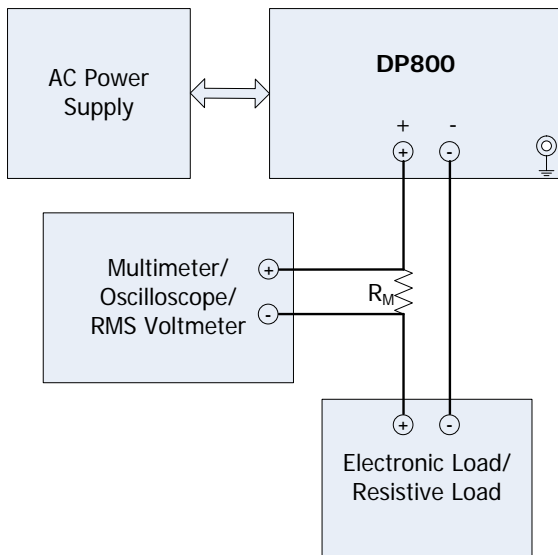
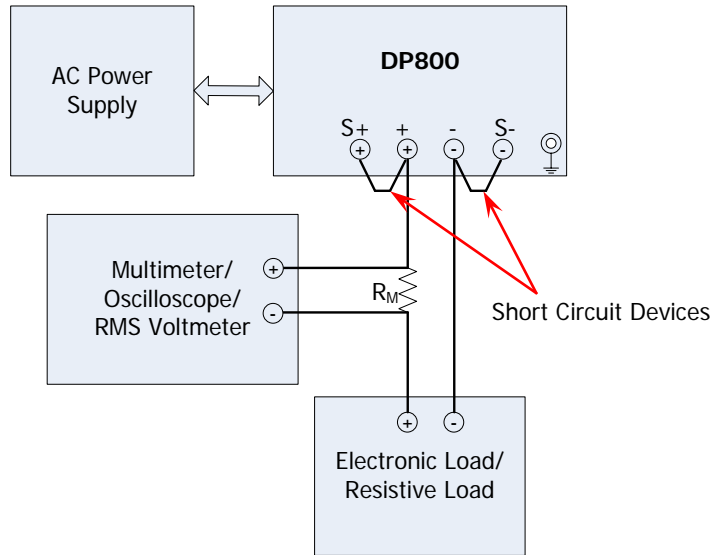

Figure 3-1 CC Test Connections
Figure 3-2 CC Test Connections (Sense)
Before performing the tests, select the appropriate voltage via the “voltage selector” at the rear panel of the power supply according to the AC line voltage of the country (230V is taken as an example in all the tests in this manual). Under normal temperature (about 25°C), make connections according to Figure 3-1 or Figure 3-2 using the devices recommended in “**Recommended Test Devices**” (for CC ripple and noise test, please connect the desired devices according to Figure 2-1 or Figure 2-2). During the test process, please set the voltage of the AC power supply according to the voltage selected of the “voltage selector” at the rear panel of the power supply.
- During the CC tests, make connections according to Figure 3-1 for the normal channels (namely the channels that do not support the Sense function) of the DP800 series power supply. For the channels that support the Sense function (CH2 of DP821A and DP811A), make connections according to Figure 3-2 (note to short-circuit the (S+) and (+) terminals, (S-) and (-) terminals of the channel respectively) and turn on the Sense function of the channel during the test process to measure the specifications under Sense mode.
1. Turn off DP800. Connect DP800, AC power supply, current sampling resistor (the resistance R_M is 0.022 Ω), electronic load and multimeter according to Figure 3-1. Please pay attention to the connection method of the current sampling resistor, electronic load and the channel output terminals of DP800 as well as the connection method of the current sampling resistor and multimeter. Here, CH1 is taken as an example and the connection method is also applicable to CH2 and CH3.
- For the channels that support the Sense function of DP800 series, please connect DP800, AC power supply, current sampling resistor, electronic load and multimeter according to Figure 3-2 and turn on the Sense function of the channel after selecting the current channel in step 3.
1. Turn off DP800. Connect DP800, AC power supply, current sampling resistor (the resistance R_M is 0.022Ω), electronic load and multimeter according to Figure 3-1. Please pay attention to the connection method of the current sampling resistor, electronic load and the channel output terminals of DP800 as well as the connection method of the current sampling resistor and multimeter. Here, CH1 is taken as an example and the connection method is also applicable to CH2 and CH3.